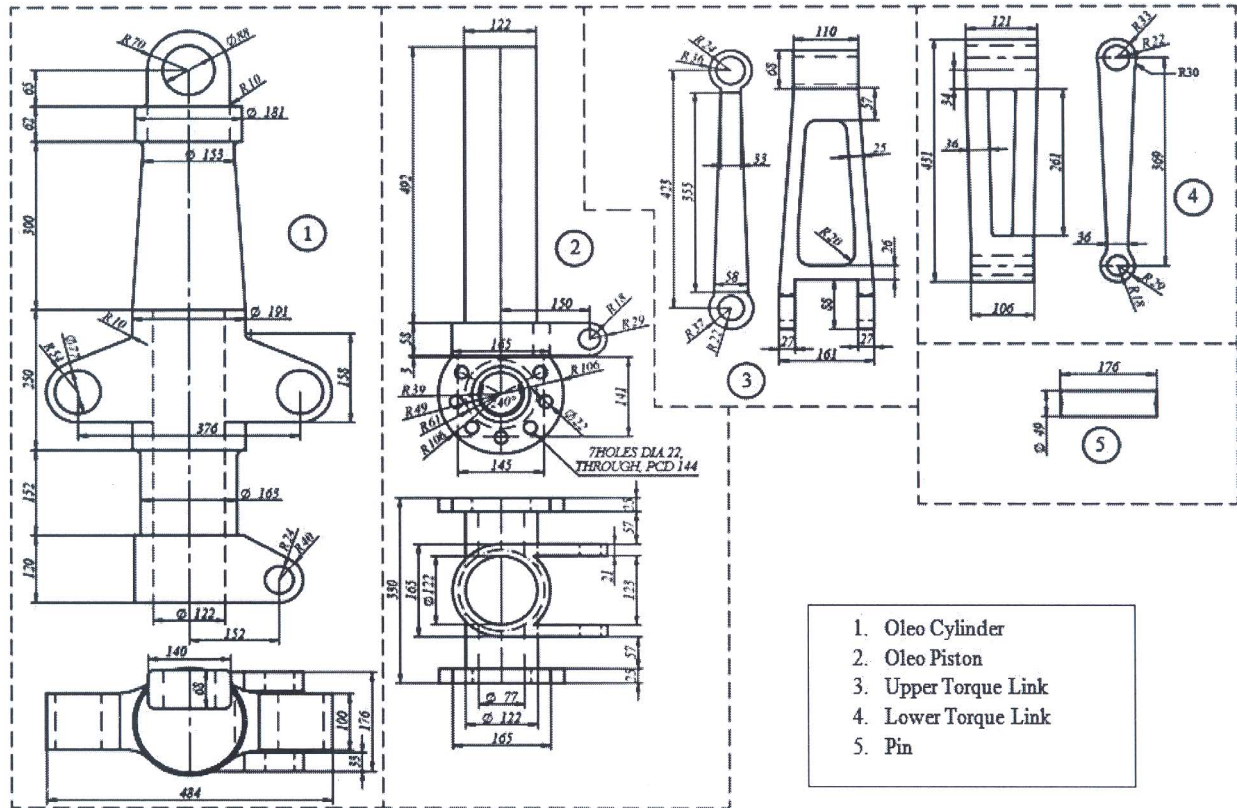

Fig 2
6. The details of a DESIGN OF LANDING GEAR ASSEMBLY are shown in Fig. 2. Draw the following views of the assembly.